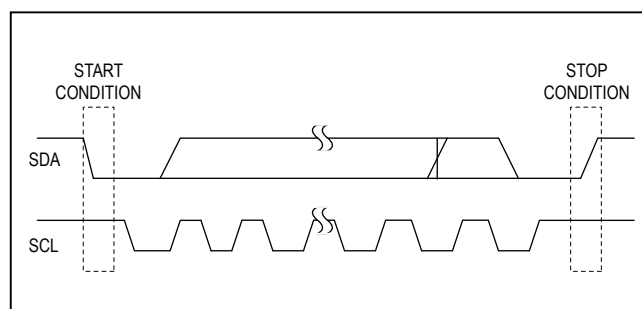

Figure 4. START/STOP Conditions
A master device initiates communication by issuing a START condition (S) which is a high-to-low transition on SDA with SCL high. A START condition from the master signals the beginning of a transmission to the device. The master terminates transmission by a STOP condition (P) (see the Acknowledge Bit section). A STOP condition is a low-to-high transition on SDA while SCL is high (Figure 4). The STOP condition frees the bus. If a repeated START condition (Sr) is generated instead of a STOP condition, the bus remains active. When a STOP condition or incorrect slave ID is detected, the device internally disconnects SCL from the serial interface until the next START or repeated START condition, minimizing digital noise and feedthrough.